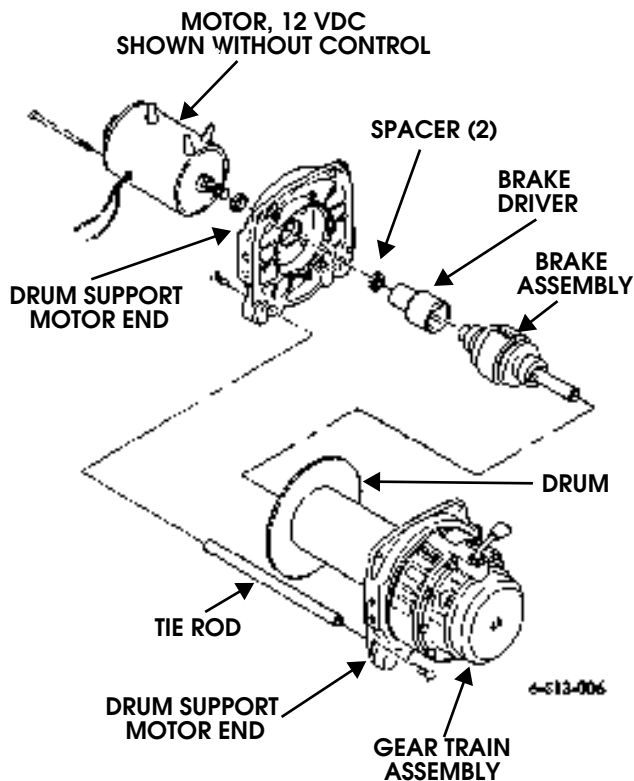

Figure 13-19: Drum Assembly and Gear Train Assembly
20. Install drum assembly on gear train assembly. Rotate drum assembly as needed to engage driveshaft, brake, and output spline (Figure 13-19).